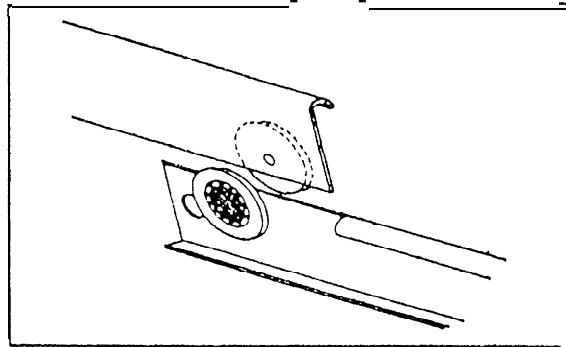

Figure 2
1. Place the set of rollers on the drawer behind the set of rollers on the oven. (As shown in figure 2)